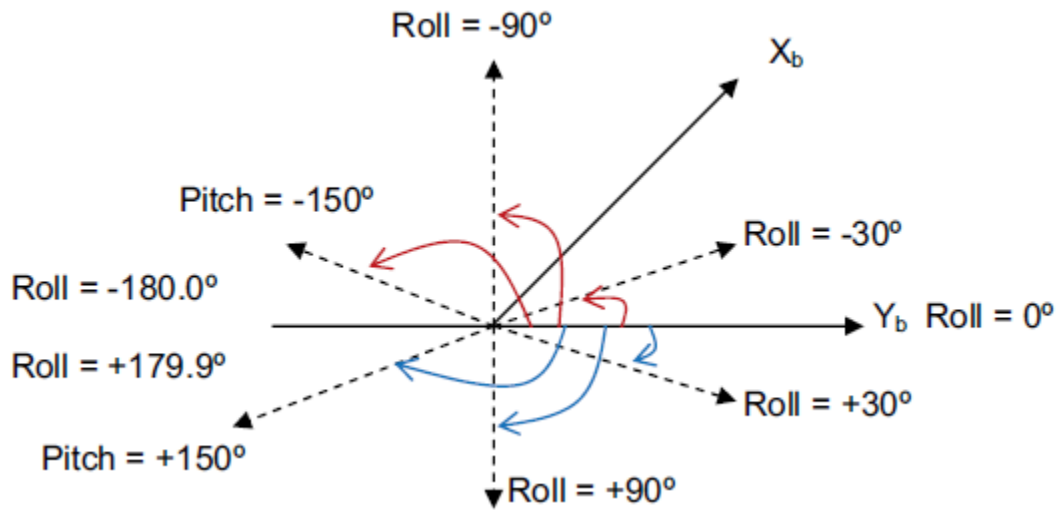

Figure 3. Roll definition
- c. Then flip over the device upside down and wait until one LED blinks rapidly again (see Figure 3).
Figure 3 Wait until LED turns from rapid blinking to slow blinking then flip sensor upside down like above and wait until LED turns from rapid blinking to slow blinking then repeat the process for X and Y axis
Roll (Beta) is defined as the angle between the Y_b axis and the horizontal plane. Assume that the roll angle resolution is 0.1° , then it goes from 0° to $+179.9^\circ$ when rotating around the X_b axis with the Y_b axis moving downwards from a flat level, and then keeps moving from a vertical position ($+90^\circ$) back to a flat level again. The roll angle goes from 0° to -180° when the Y_b axis is moving upwards from a flat level, and then keeps moving from a vertical position (-90°) back to a flat level again. For example, in *Figure 3*, X_b is fixed, Y_b is rotating from roll = 0° to $+30^\circ$, $+90^\circ$, $+150^\circ$ and $+179.9^\circ$ for a positive direction.